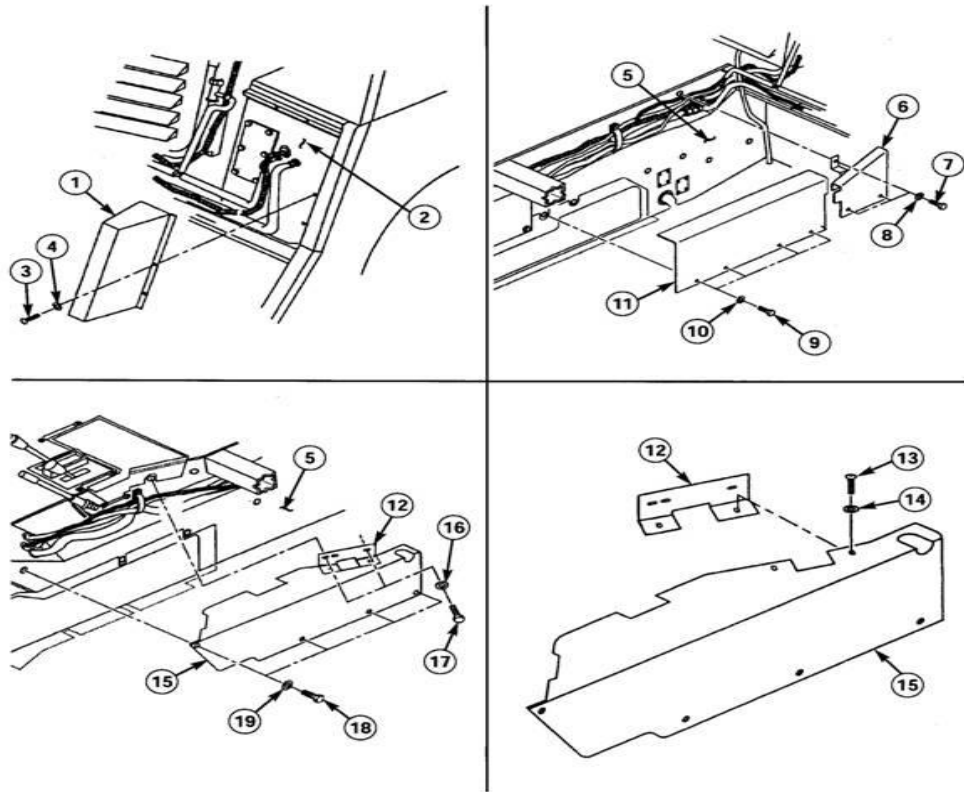

Figure 62
(17) Apply sealing compound to threads of two screws (3), and install left rear HVAC lines cover (1) on left rear wheelhouse (2) with two washers (4) and cap screws (3). Tighten cap screws (3) to 36 in-lb (4 N·M) as shown in **Figure 62**.
(18) Apply sealing compound to threads of three cap screws (7), and install left rear HVAC lines cover (6) on left side tunnel (5) with three washers (8) and cap screws (7). Tighten cap screws (7) to 6 ft-lb (8 N·M) as shown in **Figure 62**.
(19) Apply sealing compound to threads of four cap screws (9), and install A/C coolant line rear B-pillar cover (11) on left side tunnel (5) with four washers (10) and four cap screws (9). Tighten cap screws (9) to 6 ft-lb (8 N·M) as shown in **Figure 62**.
(20) Apply sealing compound to threads of two screws (13), and install mounting angle (12) on A/C coolant line front cover (15) with two washers (14) and screws (13). Do not tighten screws (13) as shown in **Figure 62**.
(21) Apply sealing compound to threads of four cap screws (18), and install A/C coolant line front cover (15) on left side tunnel (5) with four washers (19) and cap screws (18). Tighten cap screws (18) to 6 ft-lb (8 N·m) as shown in **Figure 62**.
(22) Apply sealing compound to threads of two cap screws (17), and secure mounting angle (12) to left side tunnel (5) with two washers (16) and two cap screws (17). Tighten cap screws (17) to 6 ft-lb (8 N·m) as shown in **Figure 62**.
(23) Tighten two screws (13) to 36 in-lb (4 N·m) as shown in **Figure 62**.